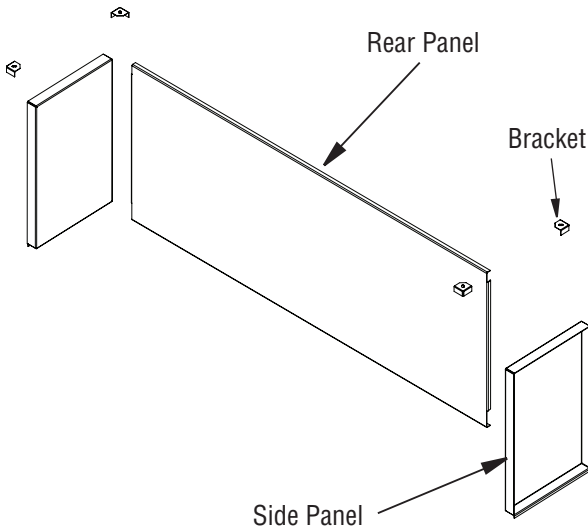

Figure 21 - Removing Rear Interior Wall for See-Thru Applications
1. Through firebox opening in the front of the fireplace, unscrew 4 corner brackets from the firebox top (See **Figure 21**).
4. Remove rear interior wall (see *Figure 21, Page 15*).